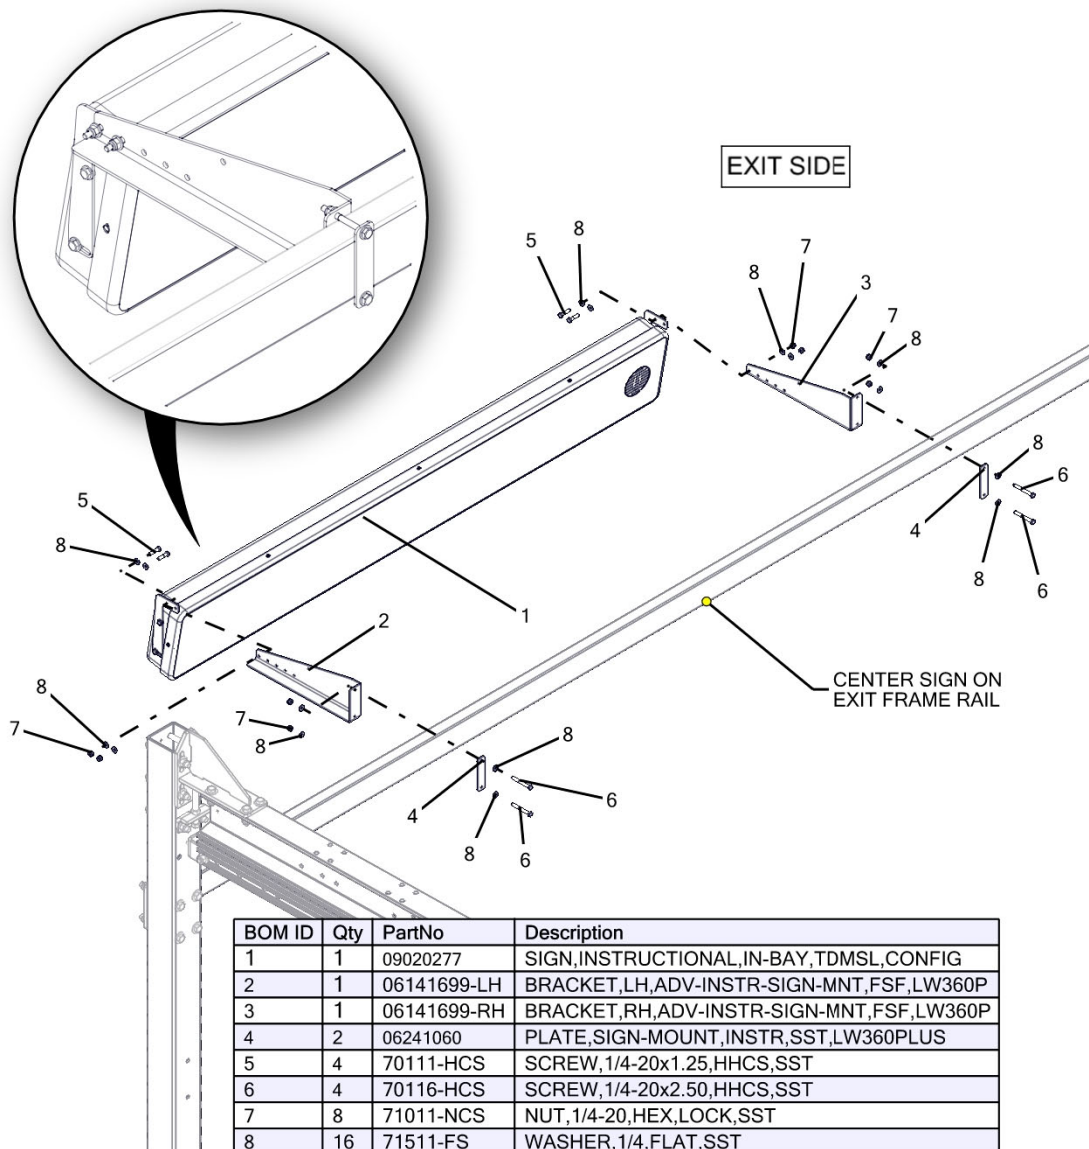

Figure 177 – Advanced In-Bay Instructional Sign Free Standing Frame Installation
- For a Free Standing frame installation, the Instructional Sign is mounted to the frame at the exit end of the wash per Figure 177 and Figure 178.